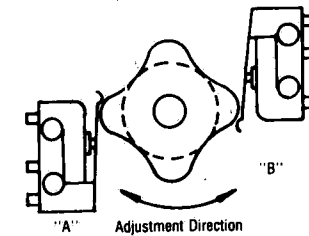

Figure 6-3. ACTUATOR CAM ADJUSTMENT.
### 4. Adjustment of Actuator Cam (Figure 6-3)
c. Loosen setscrew and adjust top cam if valve does not fully open. Refer to Figure 6-3 and rotate cam in direction "A" to correct overtravel; "B" to correct undertravel. Tighten setscrew.
d. Loosen setscrew, then adjust bottom cam if valve does not close fully. Refer to Figure 6-3 and rotate cam in direction "A" to correct overtravel; "B" to correct undertravel. Tighten setscrew.